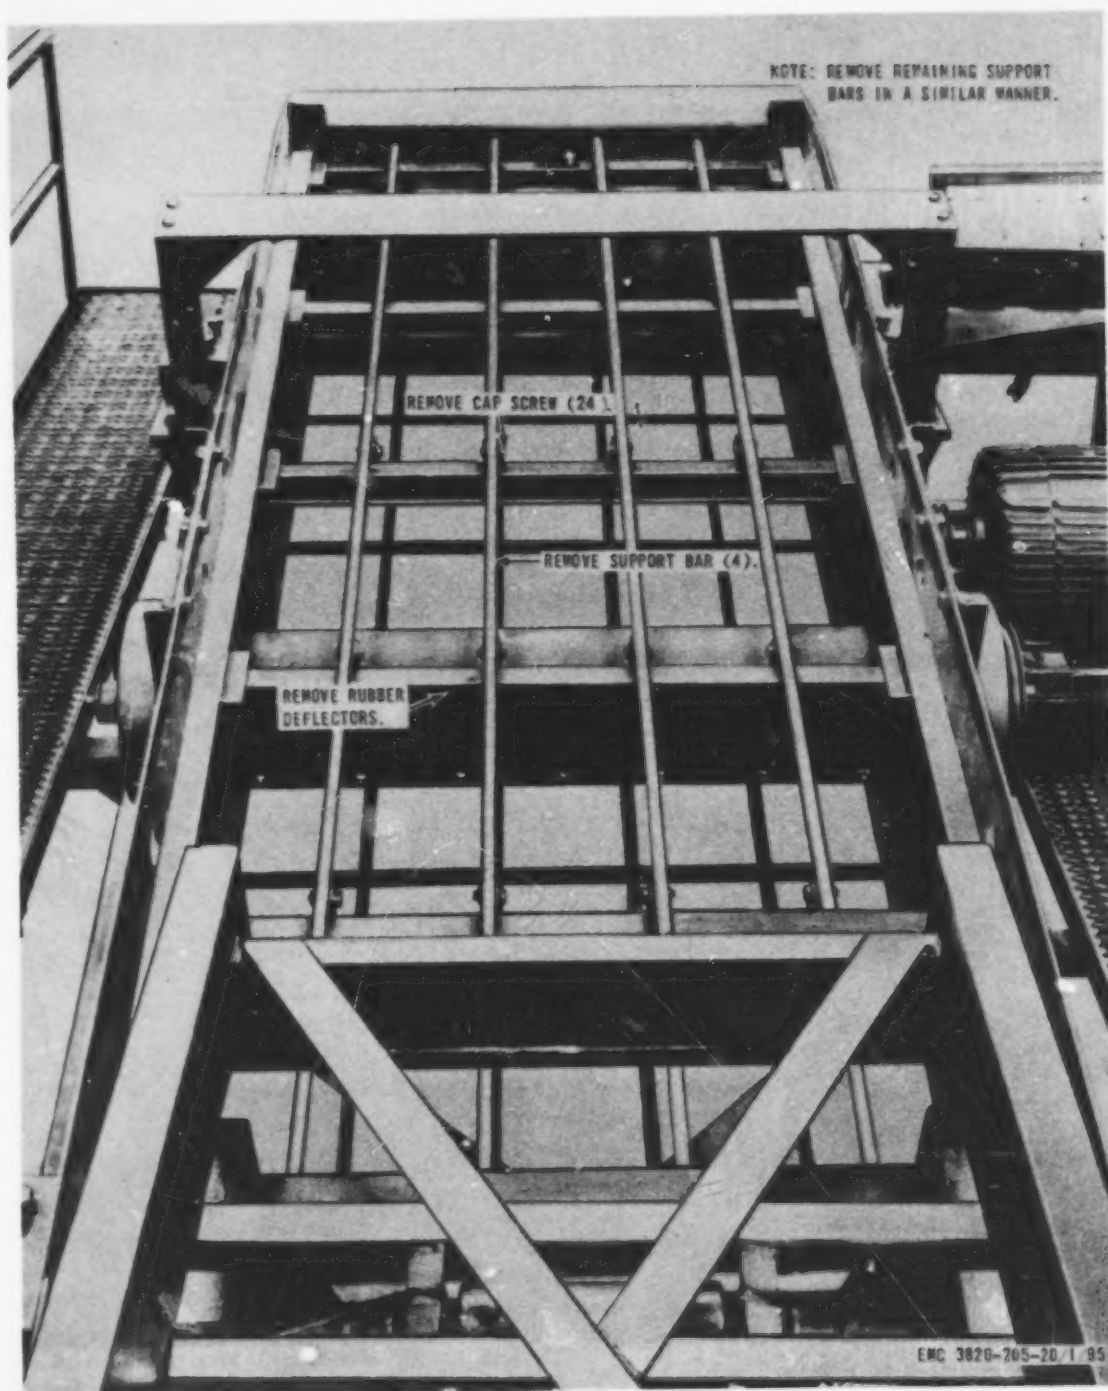

Figure 101. Vibrator screen support bars and rubber deflectors, removal and installation.
- (1) Remove the vibrator screen (TM 5-3820-205-10/1).
- (2) Remove the vibrator screen support bars and rubber deflectors from the unit as instructed on figure 101.
- (1) Install the vibrator screen support bars and rubber deflectors on the unit in reverse of the instructions on figure 101.
- (2) Install the vibrator screen (TM 5-3820-205-10/1).